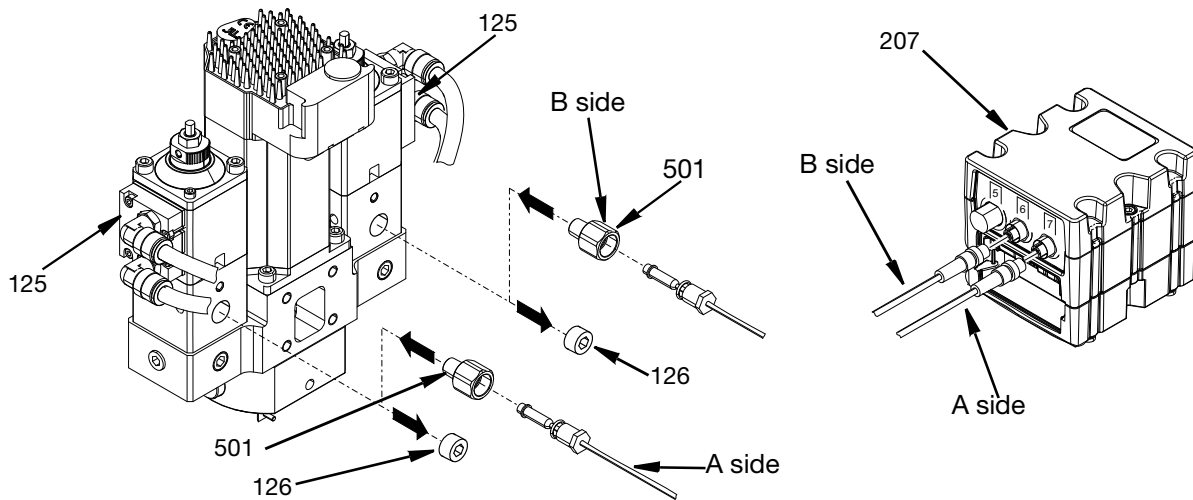

FIG. 60
2. Remove 2 plugs (126) from base housing (125).
3. Install (501) into each open port.
5. Connect A side pressure transducer into port 7 on the GCA cube module (207).
6. Connect B side pressure transducer into port 6 on the GCA cube module (207). See FIG. 60.